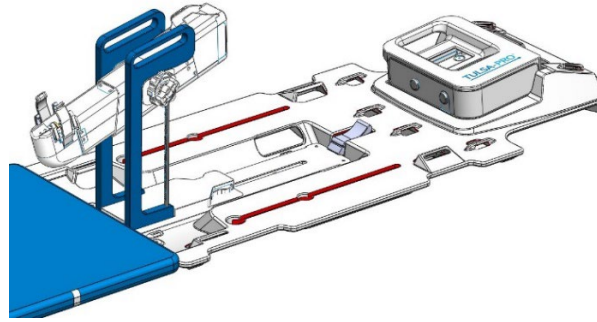

Figure 21. Secure the Positioning System using the latch on the base plate.
2. **MRI Technologist:** Place the PSIB in its slot at the foot of the base plate. Secure the Positioning System (PS) to its slot on the base plate between the patient's legs by closing the latch (Figure 21).